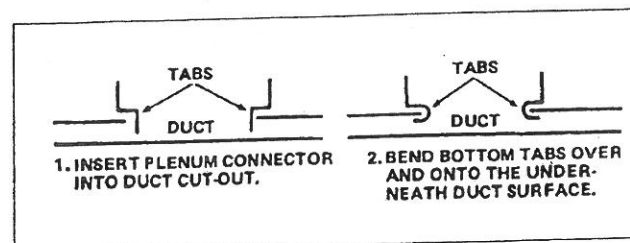

Figure 7. Installation for Plenum Connector
5. Secure the connector to the duct by bending the bottom tabs under and up against the duct surfaces as shown in Figure 7.